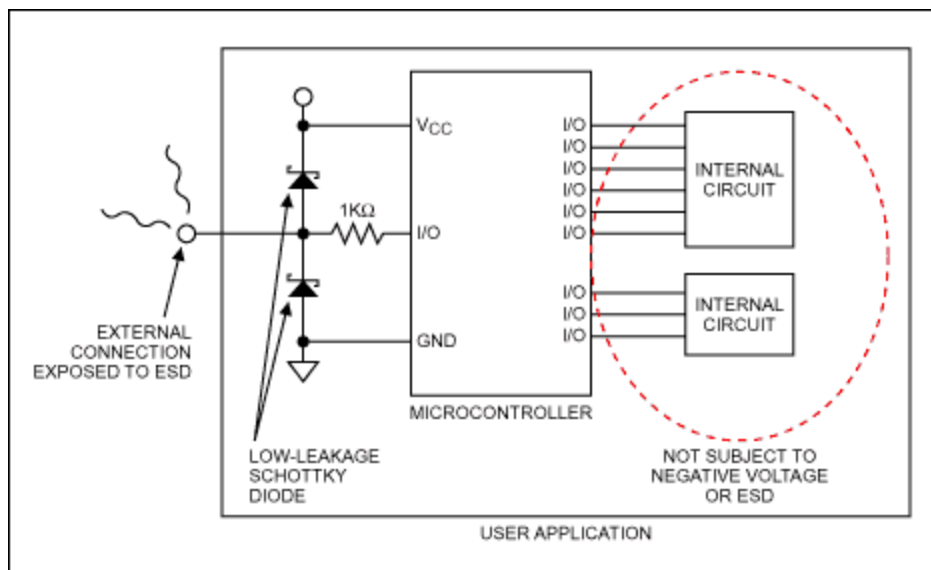

Figure 1. External I/O protection scheme.
**Figure 1** demonstrates a diode protection scheme that can be used to protect the I/O pins of a microcontroller. The scheme relies on the use of a Schottky diode and current limiting resistor to reduce the effect of current spikes on the device. When the voltage approaching the device pin exceeds  $V_{CC}$  or  $V_{SS}$  by more than 0.1V - 0.2V, the Schottky diodes will become forward biased, conducting the excess voltage away from the device pins. The current limiting resistors will also help dampen the effect of the voltage spike on the microcontroller.
The protection diodes shown in Figure 1 must be chosen carefully. Most Schottky diodes, such as the popular 1N5817, are suitable at room temperature. At high temperatures, however, their reverse bias leakage will begin to load the I/O line, making it difficult for the device to drive a logic 1. For example, a DS87C520 can drive a logic 1 with a maximum current of 50 $\mu$ A. At room temperature, the reverse leakage of a typical 1N5817 is 30 $\mu$ A. At 70°C, however, the reverse leakage is greater than 100 $\mu$ A. The microcontroller will be unable to source enough current to maintain a CMOS logic high of 2.4V.